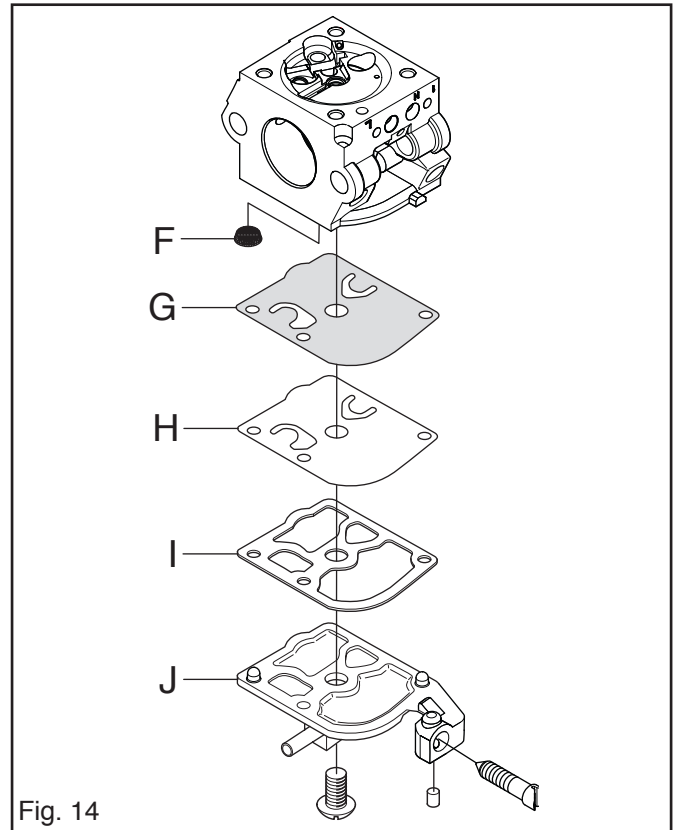

Fig. 14
3. Fit the fuel filter (F) by using the handle of a small screwdriver. See fig. 14.
4. Fit the pump diaphragms (G and H), gasket (I) and cover (J) on the pump unit. See fig. 14.